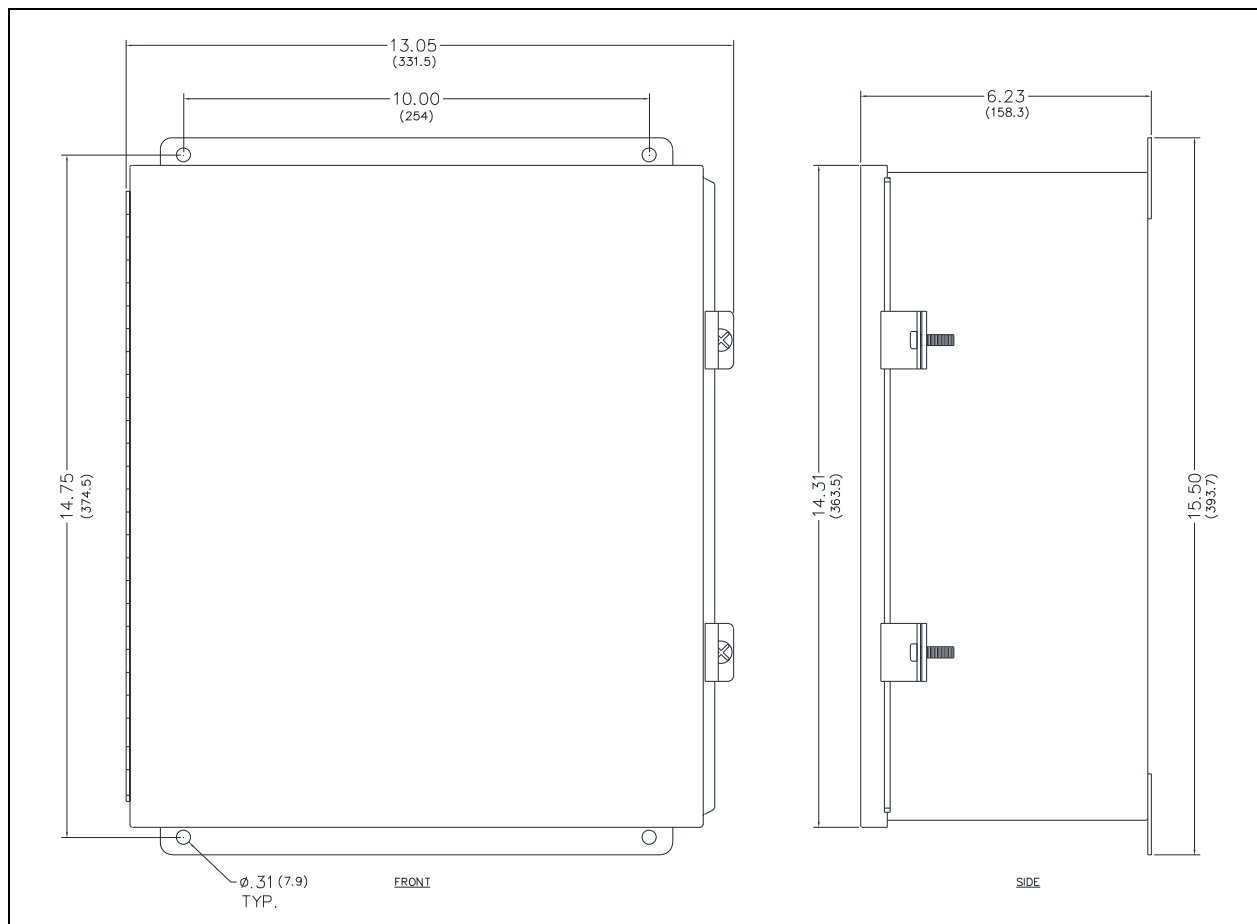

Figure 2. E3 IP Strobe MRM Enclosure
Mount the Model 379-004 E3 IP Strobe MRM station vertically (see Figure 2). Select a mounting location that is flat, provides proper clearance, and is rigid and strong enough to support the enclosure.
1. Mount the enclosure using ¼-20 (M6) hardware, appropriate for the mounting surface, through the four 0.31-inch (7.9 mm) diameter holes, on the mounting flanges (see Figure 2)